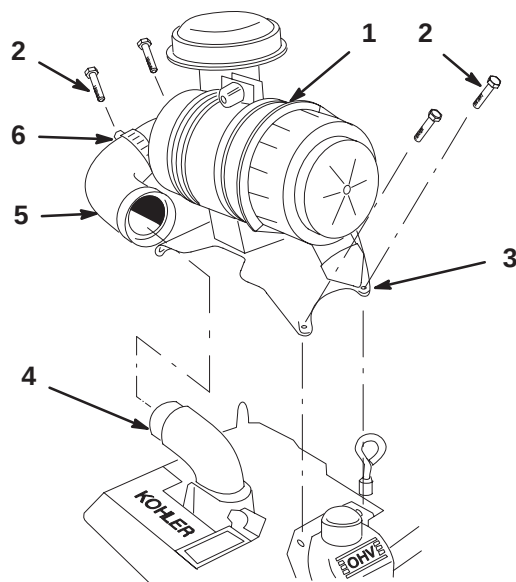

Figure 9
- Remove air cleaner from crate. Keep air cleaner and bracket together. (Fig. 9).
- Remove the top two valve cover mounting screws from both valve covers (Fig. 9).
- Place air cleaner onto engine and align holes in air cleaner bracket with holes in valve covers (Fig. 9).
- Install valve cover screws into air cleaner bracket and valve covers (Fig. 9).
- Remove plastic plugs from air intake elbow on engine and air cleaner hose (Fig. 9).
- Install hose to air intake elbow on engine and air cleaner. Tighten hose clamps to secure the hose connections (Fig. 9).